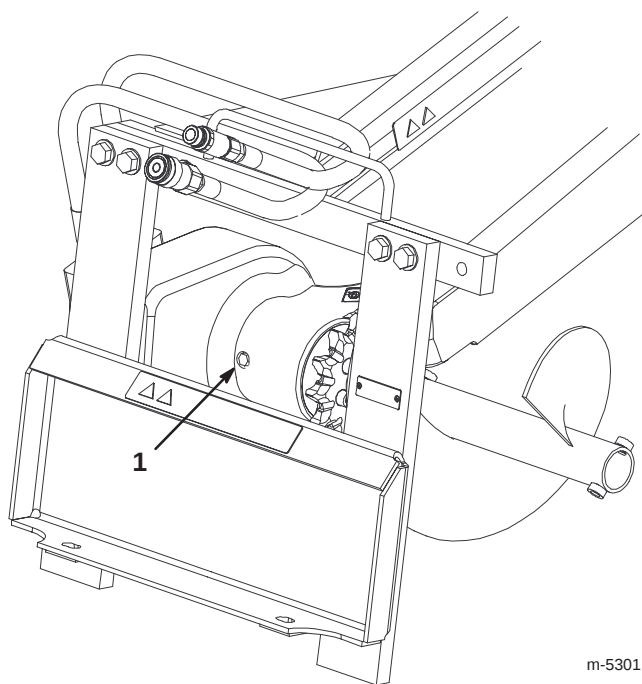

Figure 7
1. Clean the area around the bearing case fill hole plug (Fig. 7).
2. Remove the plug from the bearing case fill hole (Fig. 7).
1. Clean the area around the gear case fill hole plug (Fig. 7).
2. Remove the plug from the gear case fill hole (Fig. 7).